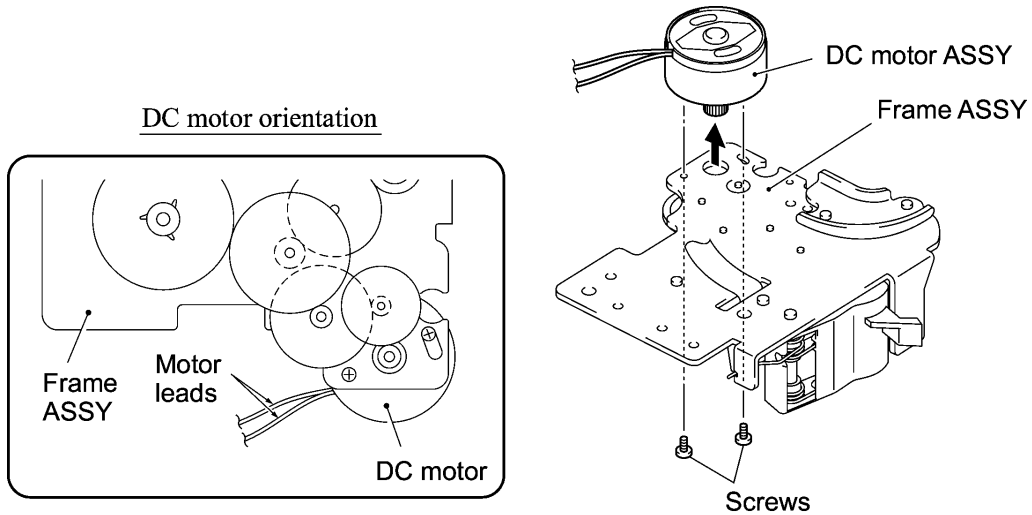

Figure 3.1-7 Removing the DC Motor ASSY
- When securing the DC motor to the frame ASSY, orient it so that the motor leads is routed in the direction shown in Figure 3.1-7.